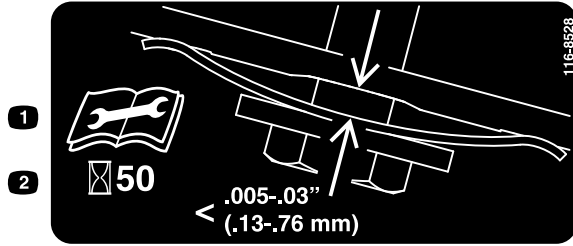

Figure 31
- Hold a feeler gauge set between 0.005 and 0.03 inches (0.13 and 0.76 mm) against the wall and slide it down behind the belt tension spring; refer to Figure 31.